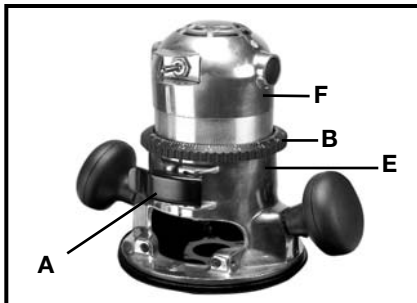
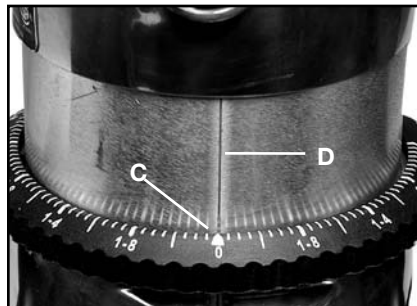

Fig. 3A
Fig. 3B
1. Open the clamp (A) Fig. 3A.
2. Hold the base (E) and turn the power unit (F) Fig. 3A **COUNTER-CLOCKWISE** until the tip of the bit is above the bottom of the base.
4. Turn the power unit (F) Fig. 3A **CLOCKWISE** until bit touches the work.
5. Close the clamp (A) Fig. 3A.
6. Rotate the depth adjusting ring (B) Fig. 3A until the zero-line (C) Fig. 3B is opposite the index line (D) Fig. 3B on the housing.
7. Open the clamp (A) Fig. 3A.
8. Tip the router so that the bit is clear of the wood surface. Turn the power unit (F) Fig. 3A **CLOCKWISE** until the index line (D) Fig. 3B on the motor housing reaches the desired depth indicated on the ring.
9. Close the clamp (A) Fig. 3A.